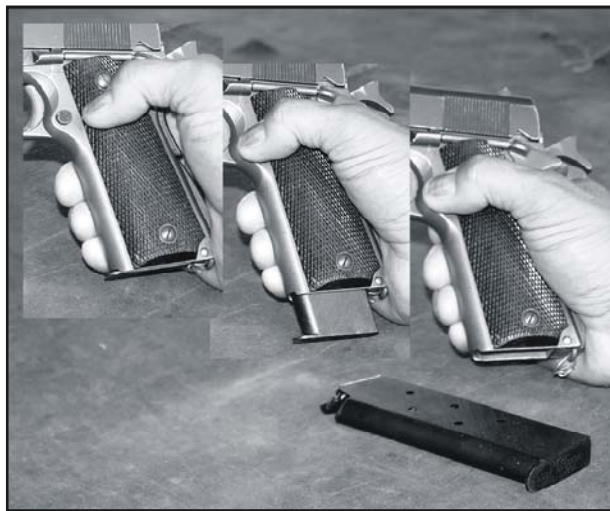

Figure 1. Remove the Magazine
- c. Press the magazine catch and remove the magazine (Figure 1).